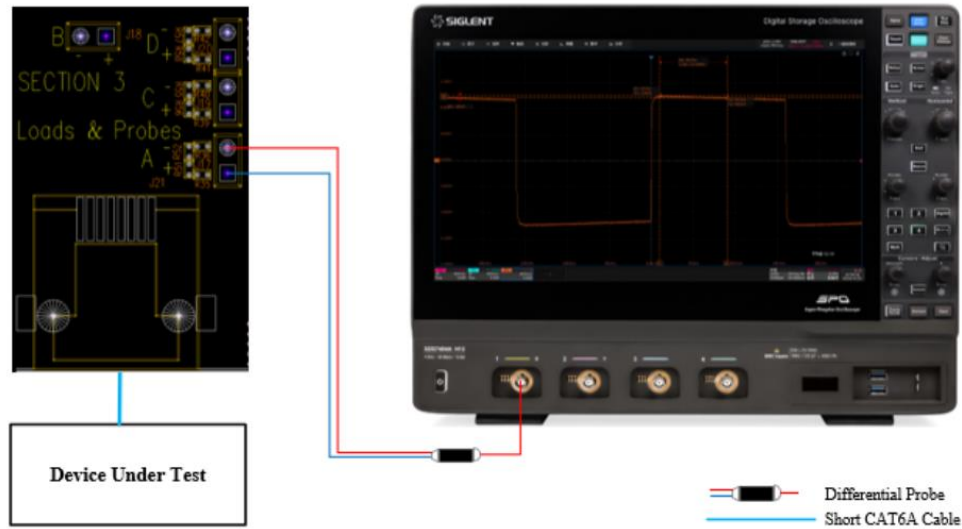

Figure 5-1 Active Differential Probe Environment
- Differential Probe: The connect method using an active differential probe is shown in Figure 5-1. The steps are:
- 1) Connect one end of a short Ethernet cable to connector J21 in area ③ of the test fixture and the other end to the DUT.